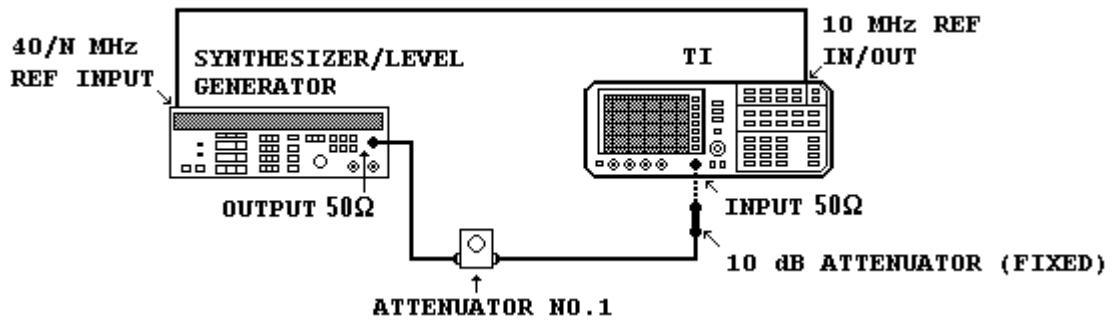

Figure 4. IF gain uncertainty - equipment setup.
- (1) Connect equipment as shown in figure 4.